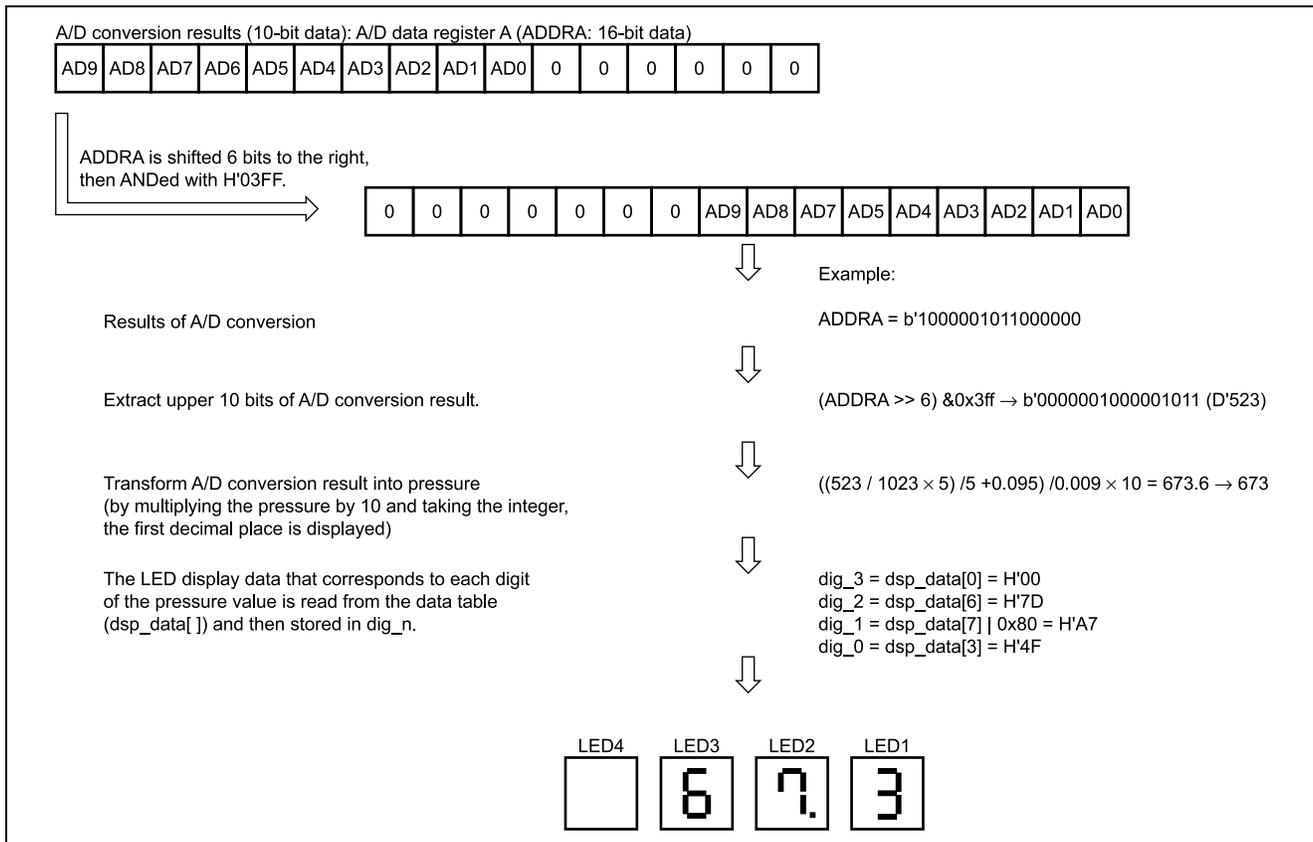

Figure 1.5 Acceleration value is displayed on the LEDs.
9. In this sample task, the results of A/D conversion are displayed in decimal-fraction format (unit: kPa abs) on the 7-segment LEDs. Figure 1.5 shows how this is done.